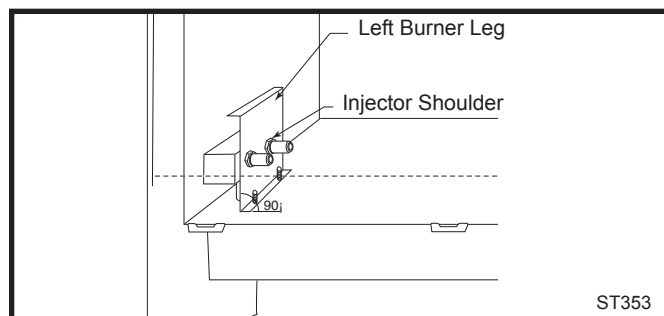

Fig. 57 Be sure to maintain 90° angle at left burner leg.
**NOTE:** It is very critical to keep the left burner leg, which holds the injectors, at a 90° angle to the base. (Fig. 57) This keeps the orifices aligned with the tubes inside burner. Failure to do so could affect the flame appearance and performance of the unit.